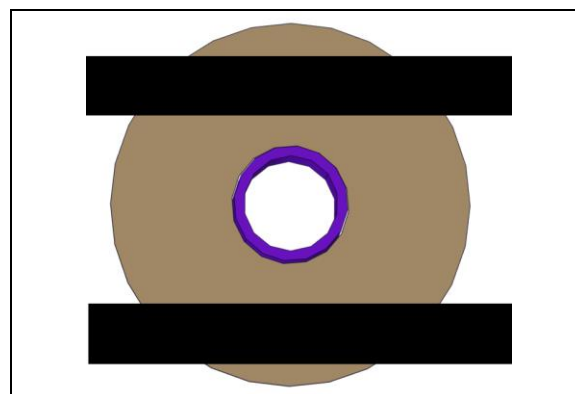

FIGURE 21
29. Use hockey tape to keep the flange assembly in place during the cure time (Figure 21).